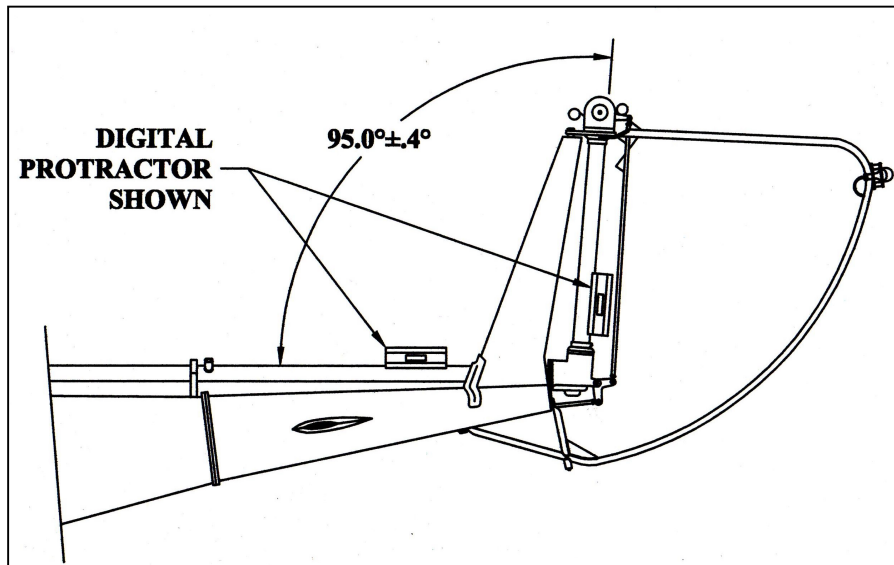

Fig. SB-105-2
- 4) Once the assembly is fully installed and all fasteners are torqued within the required values, measure the angle between the tail rotor shaft housings (p/n 249-3 and p/n 14-13). Angle must be 95.0° ± 0.4°. (See fig SB-105-2)